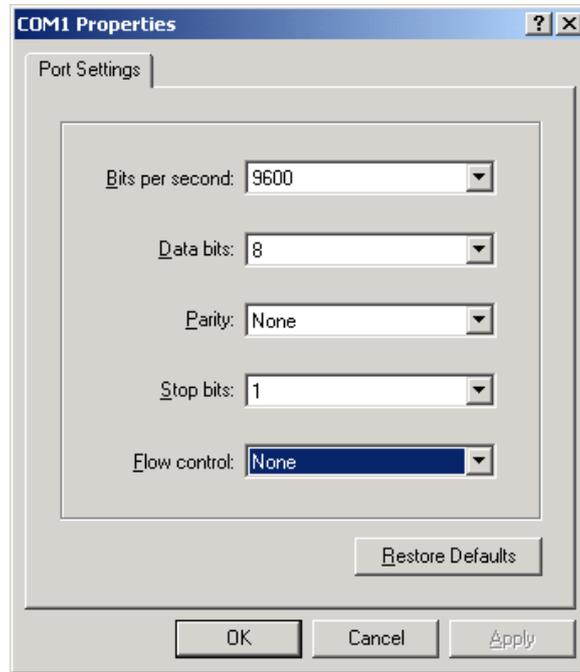

FIGURE 4-5 SERIAL PORT PARAMETER SETTING
Step 3: After selecting the serial port, click **OK** to display the interface of setting the serial port parameters as shown in Figure 4-5. Set the baud rate as 9600, data bit as 8, parity check as none, stop bit as 1 and data flow control as none.